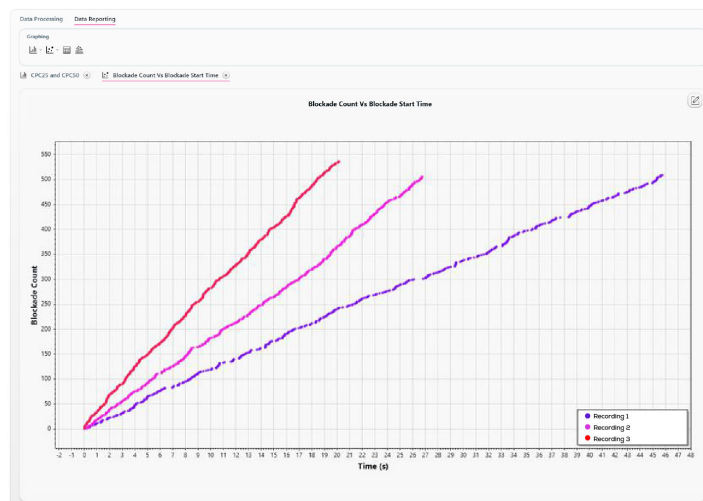

Figure 21. A good particle rate plot for a size and concentration measurement group, showing particle rate (gradient) increasing with pressure.
4. Check that the particle counts are linear over time, do not overlap and that the higher pressures and larger magnitude voltages have a higher particle rate, as shown in Figure 21.